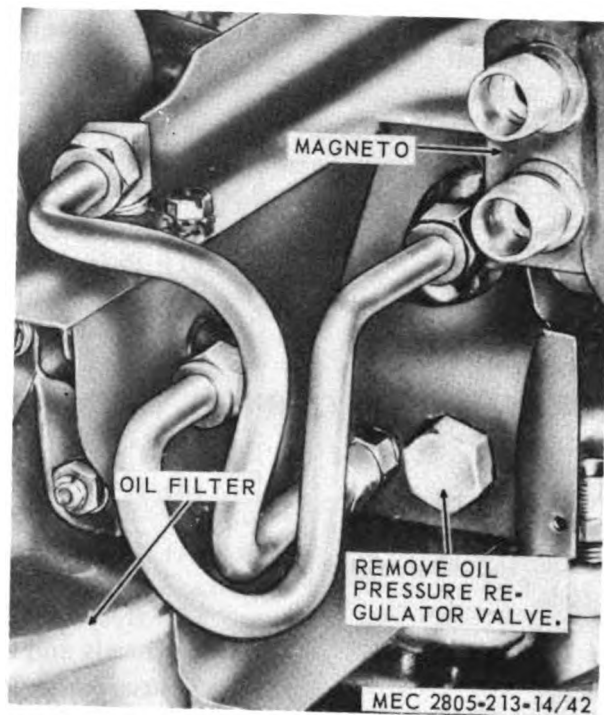

Figure 5-11. Oil pressure regulator valve, removal and installation.
(1) Remove the left rear shroud (para 3-38).
(2) Refer to figure 5-11 and remove the oil pressure regulator valve.
(1) Refer to figure 5-11 and install the oil pressure regulator valve.
(2) Install the left rear shroud (para 3-38).